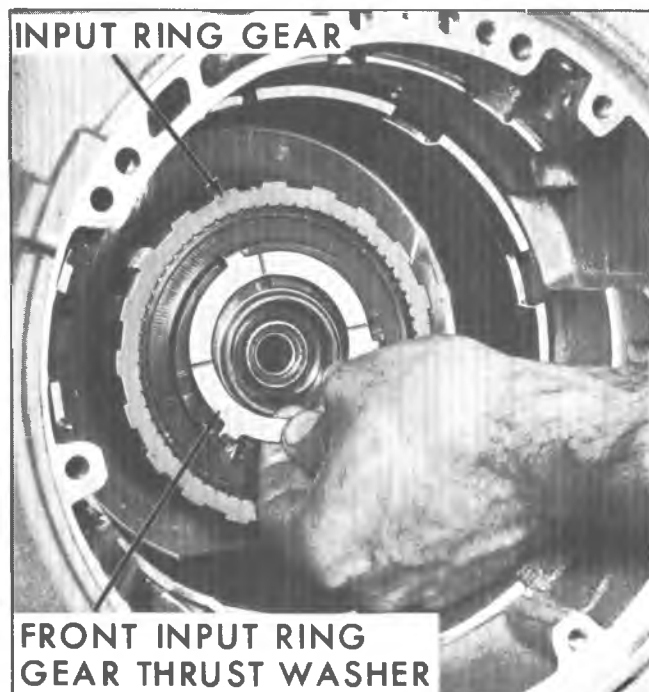

Fig. 33M--Removing Input Ring Gear Front Thrust Washer
8. Remove input ring gear front thrust washer (fig. 33M).